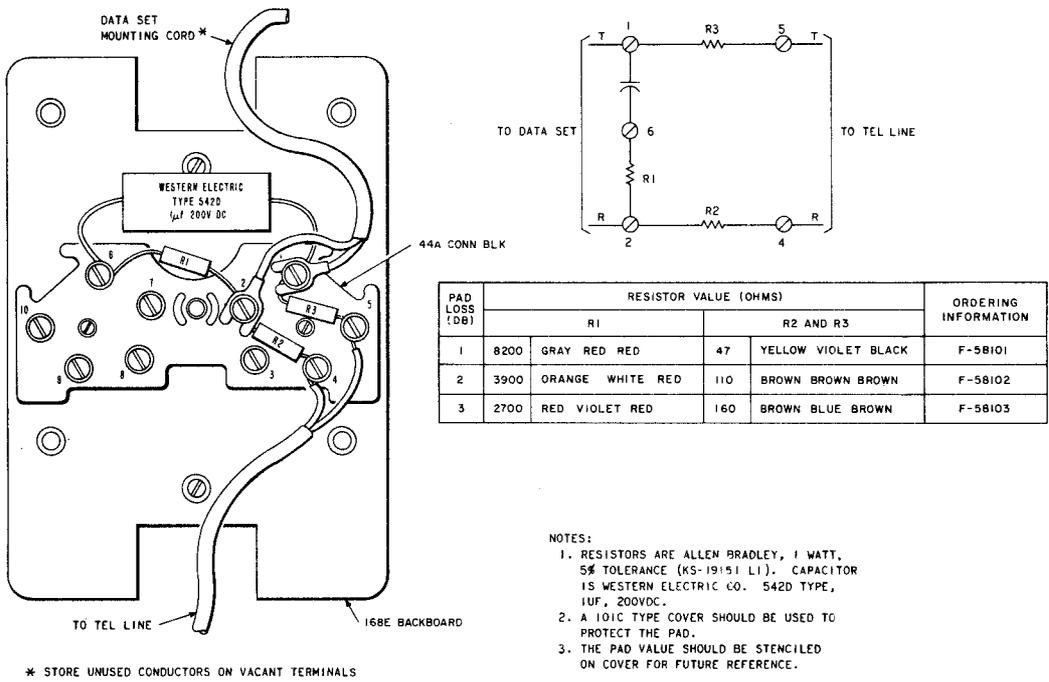

Fig. 3—Connections to Insertion Loss Pad
4.01 The data signal power level reaching the serving central office (SCO) should be no greater than -12 dBm. Usually the average loop loss between the SCO and the data set is -3 dB or greater. This -3 dB loop loss combined with the fixed -9 dBm output level of the data set ensures that the signal reaching the SCO is not greater than -12 dBm. In some cases the loop loss is less than -3 dB, and should be padded down. To meet the required power level, it may be necessary to install a pad external to the data set. The necessary pad may be ordered assembled or may be made up in the field and installed in accordance with Fig. 3.